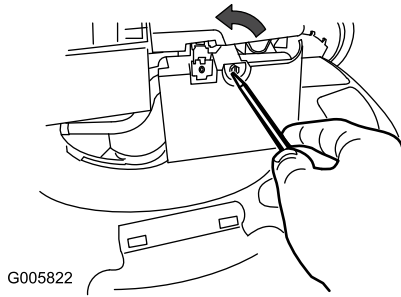

Figure 18
1. Use a screw driver to open the air filter cover (Figure 18).